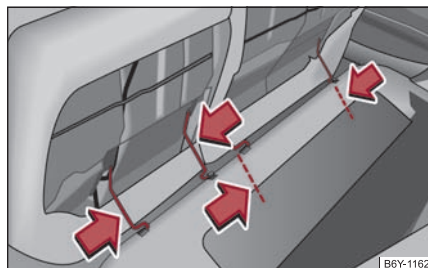

Fig. 71 Removing seat cushions
- Press the wire clamps in the direction of the arrow ⇒ fig. 71 and remove the seat cushion from its holder.